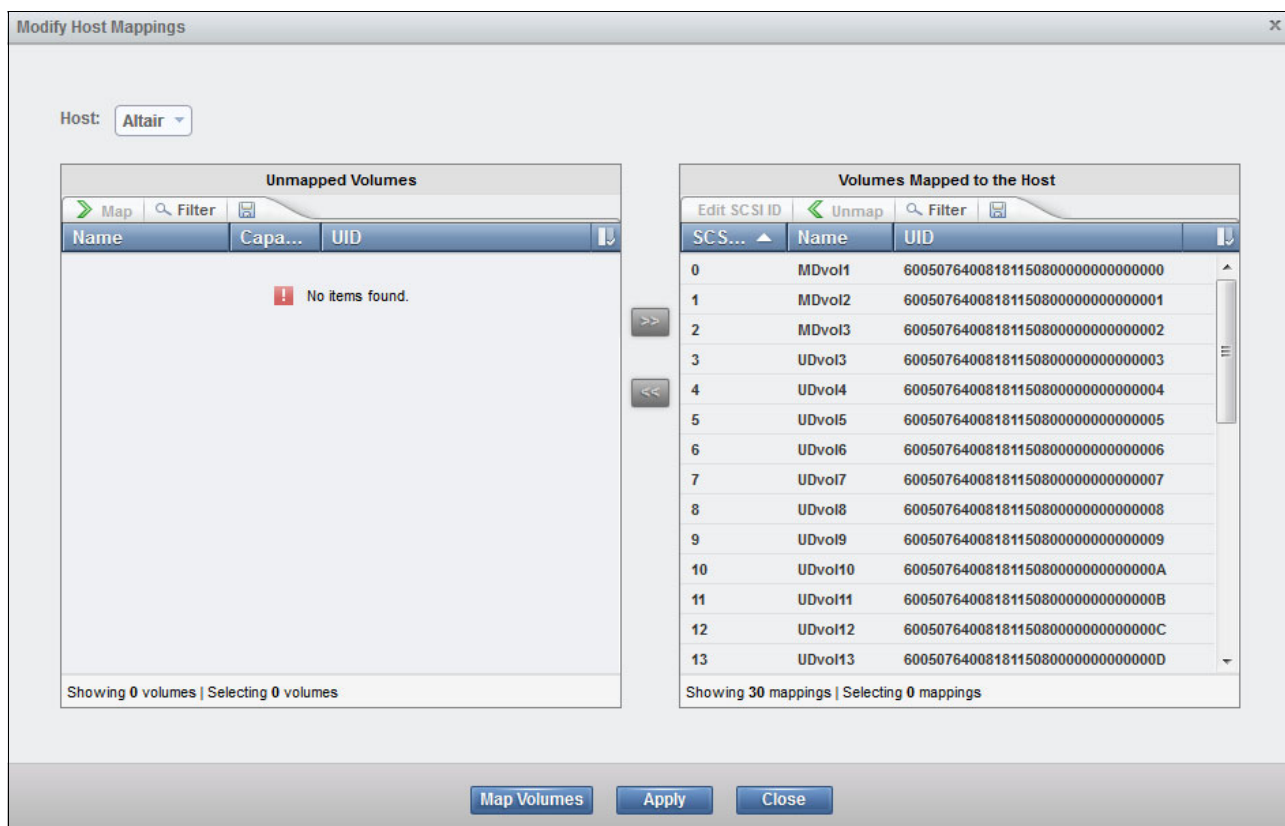

Figure 9-16 Modify mapping
3. The **Modify Host Mappings** window opens (Figure 9-16). Click the **Host** drop-down menu and select the name of the host to which you want to map volumes. If the volumes are not highlighted in yellow, select volumes from the Unmapped Volumes pane and click the double arrow (>>) to move the volumes to the Volumes Mapped to the Host pane. Click **Map Volumes** or **Apply**.